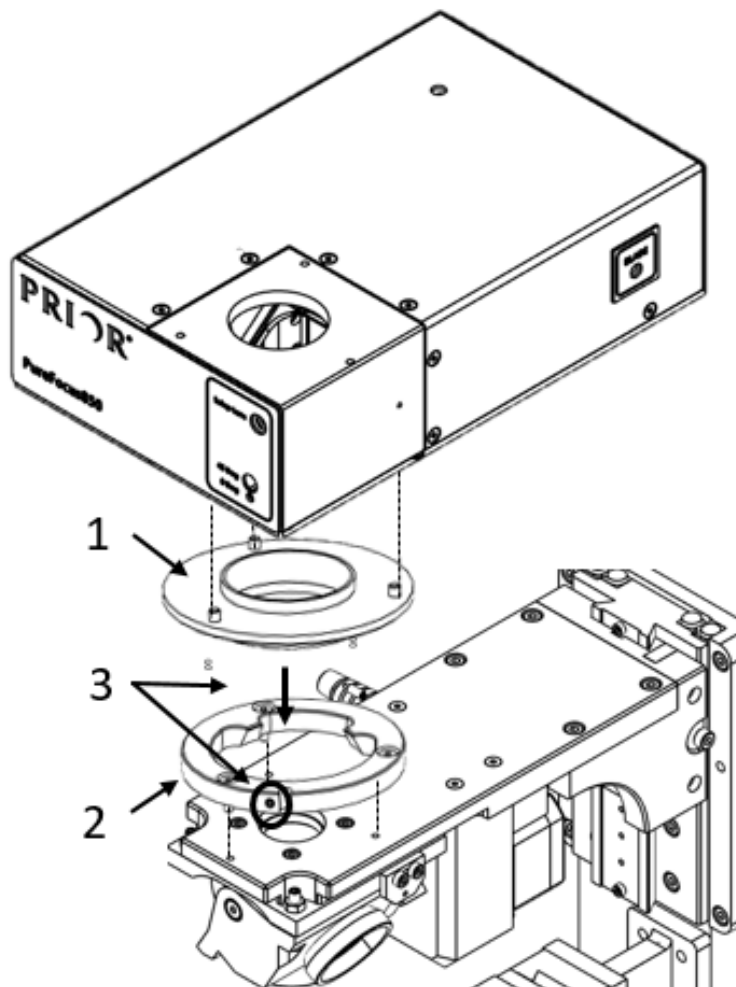

Figure 1 : Fitting LF335 onto the Openstand with 40mm Z travel
4. Attach the lower dovetail onto the bottom of the PF850/PF850M using the 3 x T173 screws (as shown on Fig 1)
5. Attach the LF522 (Upper dovetail flange) on the objective arm using the 3 x T123 screws (as shown on Fig 1)
6. Secure the PF850 by tightening the T91 screw on the upper dovetail (as circled on Fig 1)